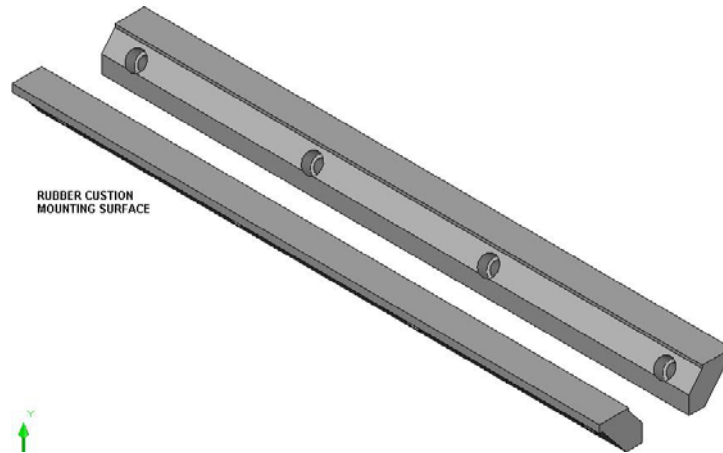

FIG. 2
3. With the jaws that have been removed strip the old rubber. Clean the rubber mounting surface with a brass brush (supplied). (REF. FIG. 2)
6. Cut (2) $\frac{3}{4}$ " wide X 14" long red rubber cushion strips. Using medium sandpaper, a wire brush, or a file completely rough up both sides of the rubber cushion strips.